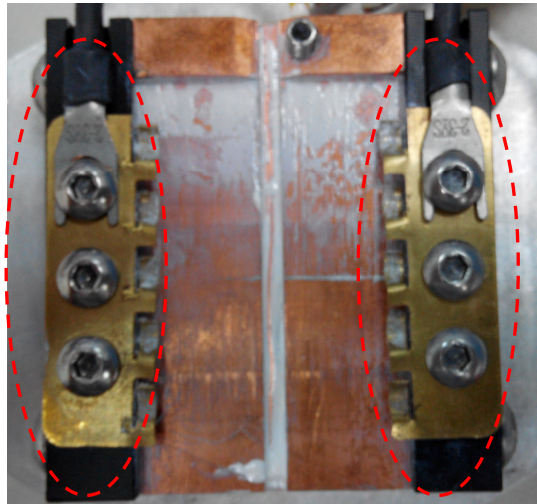

Figure 2. Recommended connector
2. Assembly guide line: Lumeniche don't suggest solder the wire on the IUVCOB. Lumeniche recommended assembly with clamp to connect IUVCOB and power supplier is shown below (Fig.2).